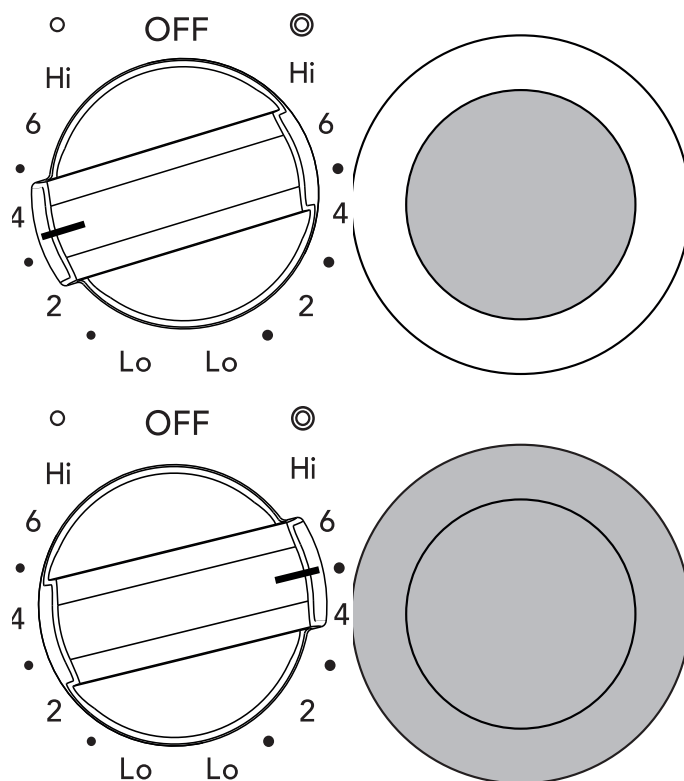

Figure 10: Dual element knob settings
2. Push in and turn the surface control knob clockwise to begin heating both the inner and outer elements. If only the inner element is needed for smaller cookware, push in and turn the knob counter-clockwise (see Figure 10).